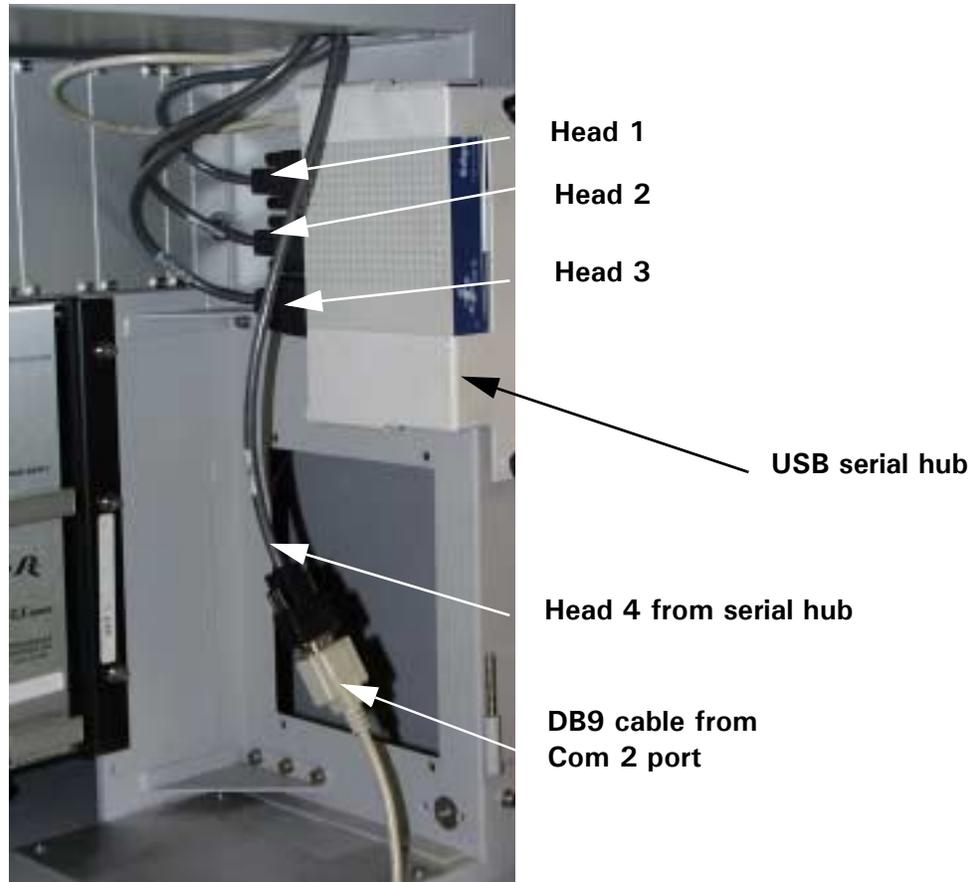

Figure 15
4. Locate the USB serial hub on the right-hand side panel. See Figure 15. Remove the (applicable) cable of the newly installed weight scale from the hub. Connect the cable to the DB9 serial cable. This setup shows the connection for Head 4.
3. Connect the supplied **DB9 serial cable** to **Com 2** at the rear of the computer. See Figure 15.
4. Locate the USB serial hub on the right-hand side panel. Remove the (applicable) cable of the newly installed weight scale from the hub or scale to be calibrated. Connect the **cable** to the **DB9 serial cable**. This setup shows the connection for Head 4. See Figure 15.